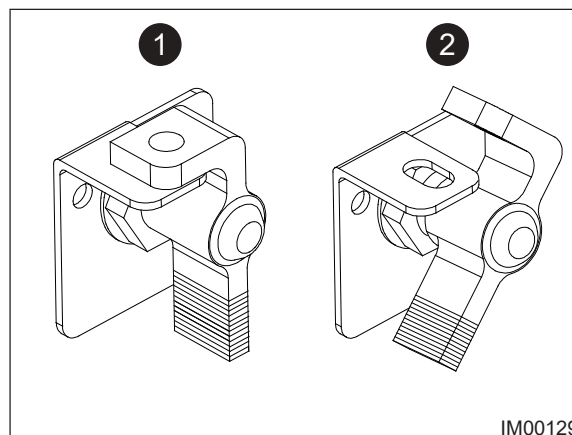

Fig: 5.1 - Isolator Switch
3. Proceed to the Isolator Switch (Fig: 5.1) and rotate the switch clockwise from the OFF position (Item 1) to the ON position (Item 2).